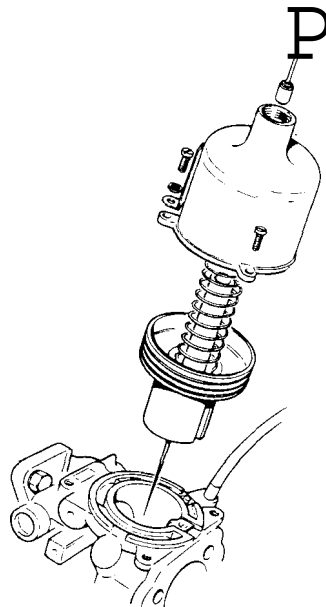

Figure 41 Removal of Suction Chambers.
7. Support each carburettor in turn, rotate outwards, and undo the three screws holding the suction chamber to the carburettor body (fig 41)